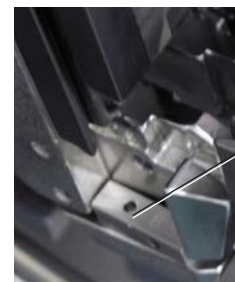

Fig. 7-18 1 Die support piece
- If necessary, insert a die support piece (1, Fig. 7-18), making sure the installation orientation is correct.